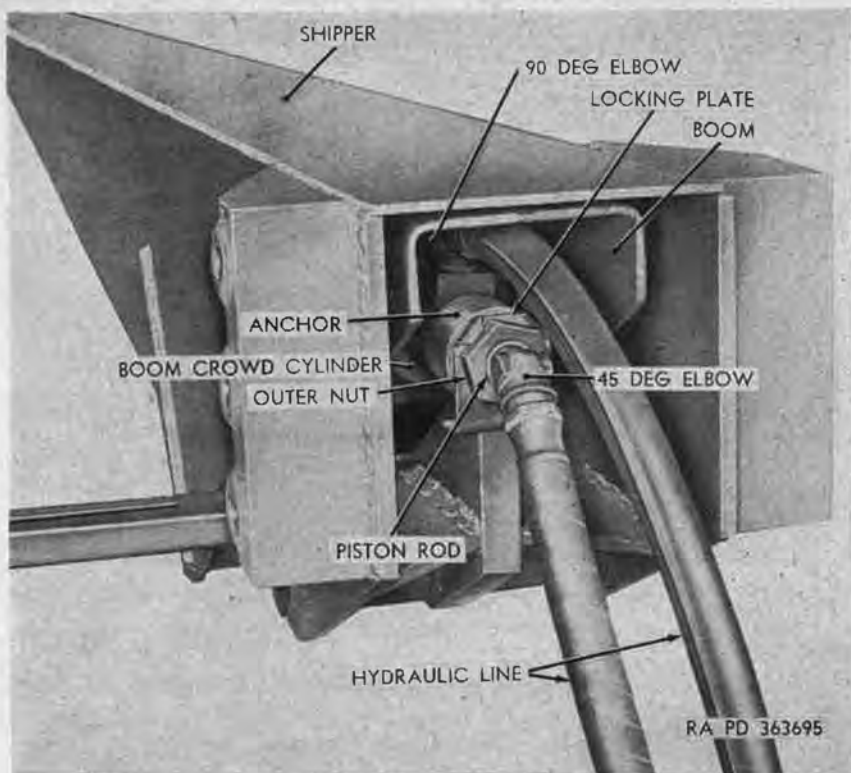

Figure 291. Rear view of boom and shipper assembly with cable drum removed M62.
- (12) *Boom crowd cylinder.* The boom crowd cylinder (fig. 291) is mounted horizontally inside the boom and shipper assembly. The rear end of the crowd-cylinder piston rod is secured to the anchor (welded to the rear end of the shipper) by two nuts and a locking plate. A collar welded to the crowd cylinder at a point midway between the ends is secured to the boom by two pins inserted through the sides of the boom and the collar.